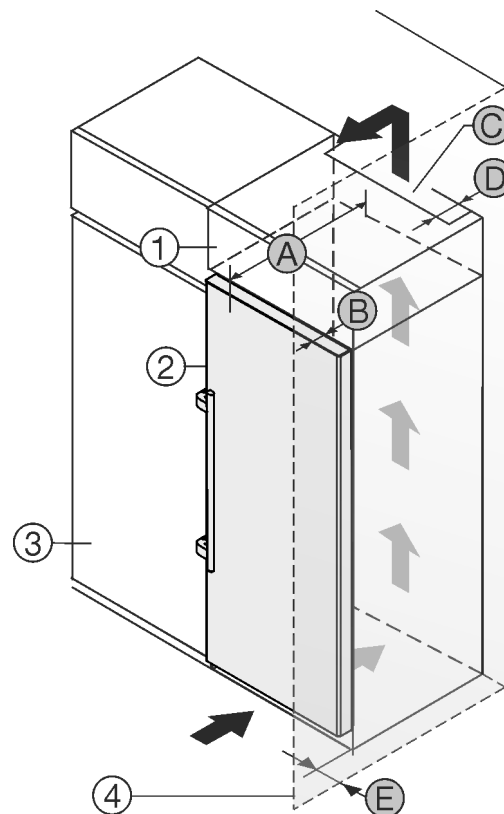

Fig. 1
- (1) Top cabinet
- (2) Appliance
- (3) Kitchen cabinet
- (4) Wall
- (A) Appliance depth
- (B) Door depth
- (C) Ventilation cross section
- (D) Distance to the back of the appliance
- (E) Distance to the side of the appliance
You can place the appliance directly beside the kitchen cabinet Fig. 1 (3).
There must be a ventilation shaft at the depth Fig. 1 (D) of the back of the top cupboard over the entire width of the top cupboard.
The ventilation cross-section Fig. 1 (C) must be maintained under the ceiling.
If the appliance is set up with the hinges next to a wall Fig. 1 (4), the distance between the appliance and the wall must be at least 57 mm. This is how far the handle protrudes when the door is open.
In order to be able to fully open the door, the appliance must protrude by the depth of the door Fig. 1 (B) from the front of the kitchen cabinet. The appliance may protrude further depending on the depth of the kitchen cabinets Fig. 1 (3) and whether wall spacers are used.